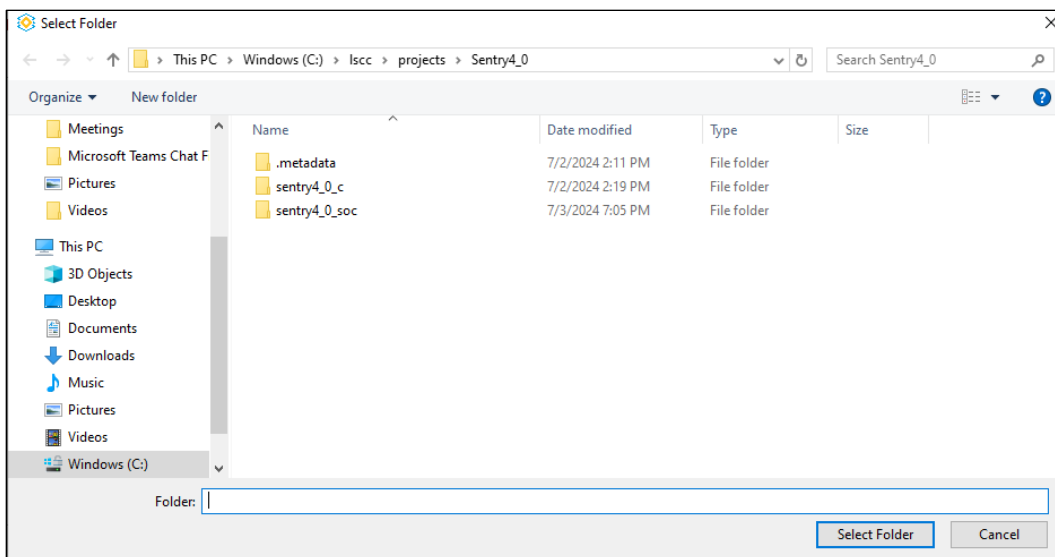

Figure 5.9. Import C Project into Workspace
5. Click **Browse** next to **Select Root Directory** and navigate to the directory which contains the C project to be imported. Click **Select Folder** (Figure 5.9).